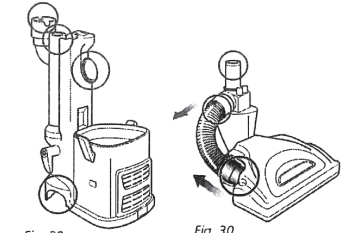

Fig. 29
- Remove the dust cup and extension wand and separate the portable Lift-Away® canister from the motorized floor brush. Look in all 4 openings for any blockages. (Fig. 29)